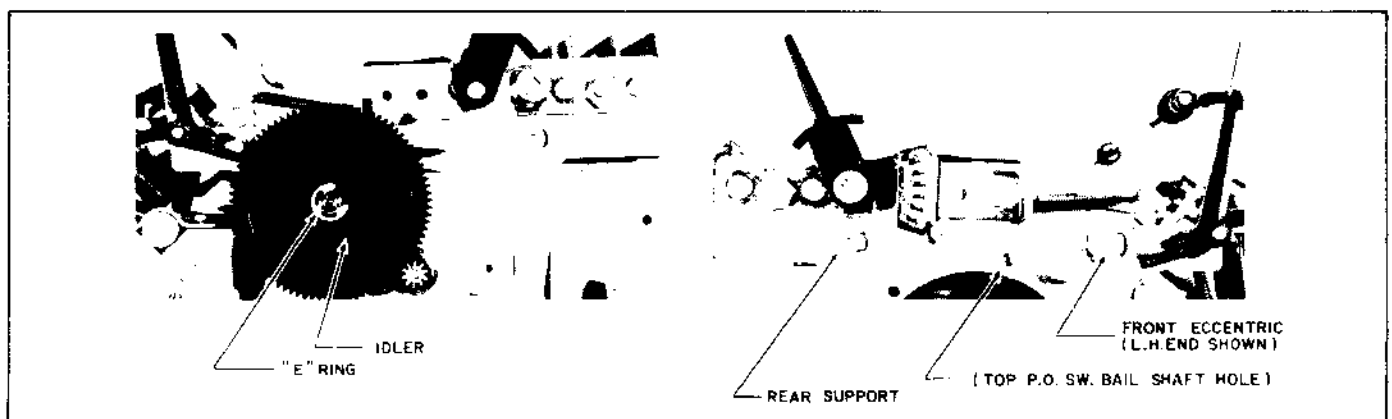

Figure 3-9. Carrier System Removal
(5) Using a 1/4" wrench or nut driver, remove the left- and right-hand front carrier subassembly height adjustment eccentrics. Using a TORX T15 screwdriver, remove the left- and right-hand rear carrier subassembly support shoulder screws. Store these items in a safe place. Refer to Figure 3-9.